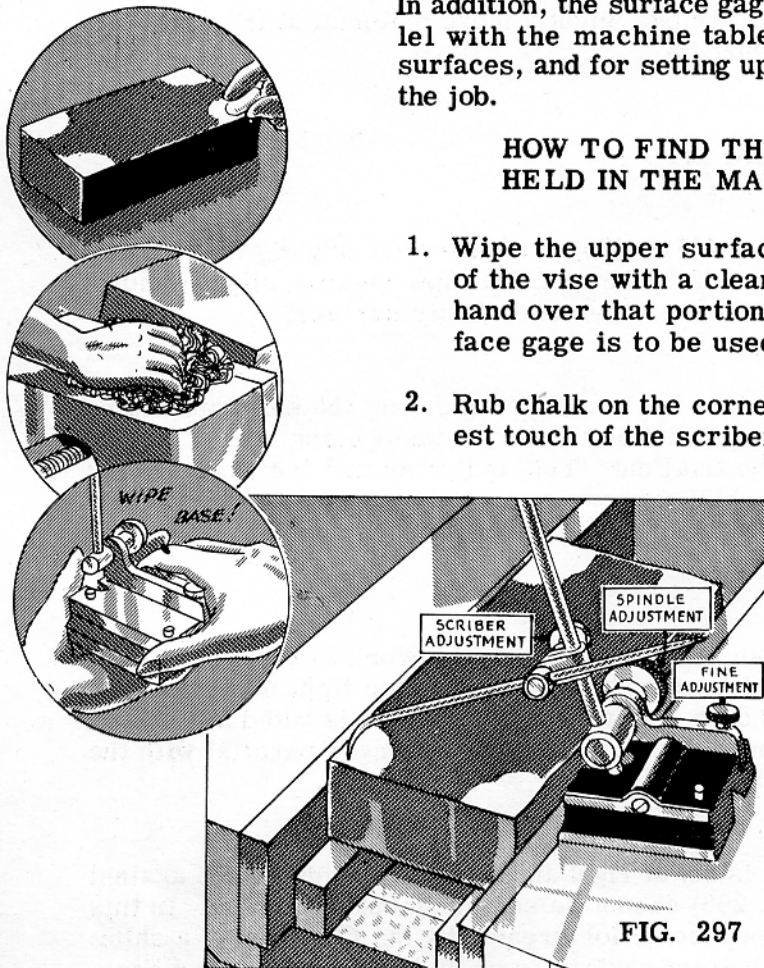

FIG. 297
4. Place the gage on the movable vise jaw. Adjust the spindle and the scriber (Fig. 297) so that the four corners of the work can be reached with the bent end of the scriber.